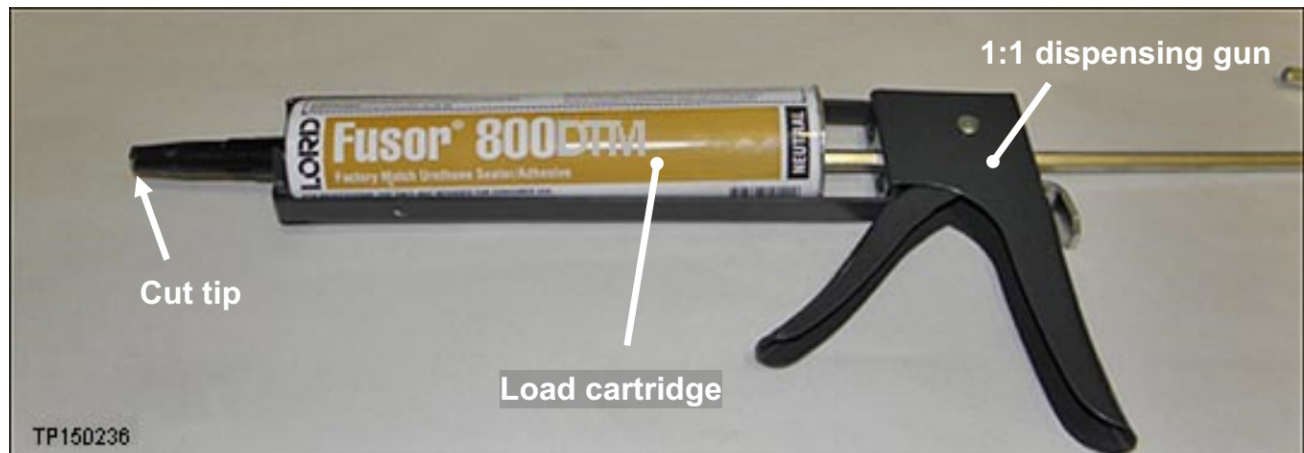

Figure 9
- a. Load the cartridge into a 1:1 dispensing gun (see Figure 9).